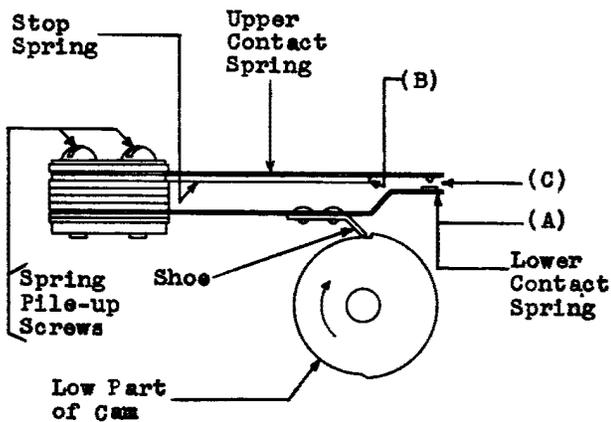

Fig. 5 — High-speed Cam Assembly — Method of Shoe Pressure and Contact Separation
**2.13 Pressure of Cam Shoe on Cam:** Fig. 5(A) —
Fig. 5(B) — With the shoe of the lower contact spring on the *low* part of the cam, the upper contact spring shall rest on the stop spring, at least at the free end of the stop spring.
**2.16 Contact Separation:** Fig. 5(C) — With the shoe of the lower contact spring on the *low* part of the cam, the separation between the contacts of the upper and lower springs shall be